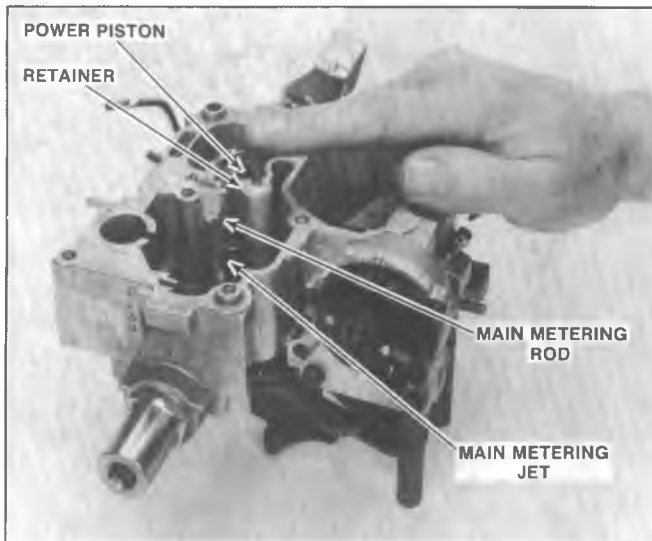

Fig. 6C2-8--Power Piston and Metering Rod Assembly
5. Remove choke housing by removing two (2) attaching screws in throttle body (Fig. 6C2-13).